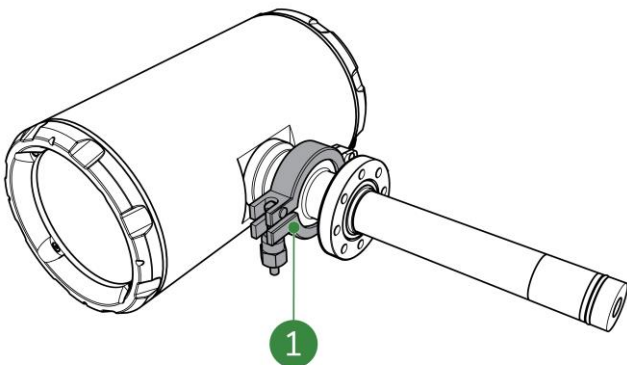

Figure 8-11: Tri-clamp nut loosening
- Loosen the nut of the tri clamp (Figure 8-11, pos 1).